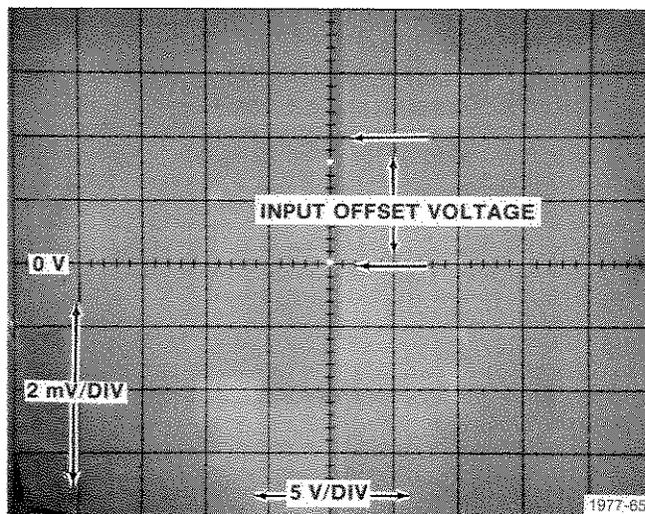

Fig. G-2. Typical display of input offset voltage.
b. Check that the vertical display is 6 mV (± 3 divisions) from the display zero reference (see Fig. G-2).